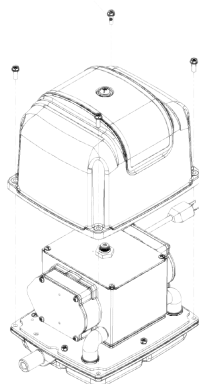

Figure 2
- Unscrew and remove the four housing screws around the aluminum upper housing, and take the upper housing off. (As shown in figure 2)